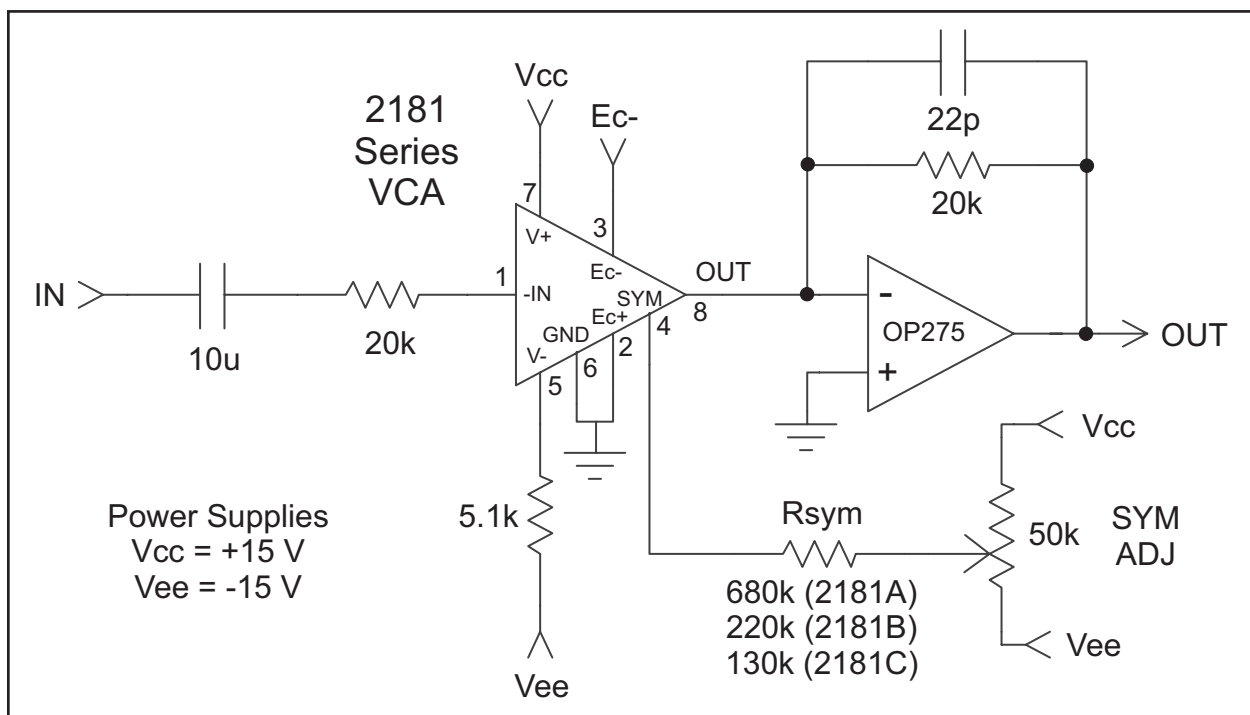
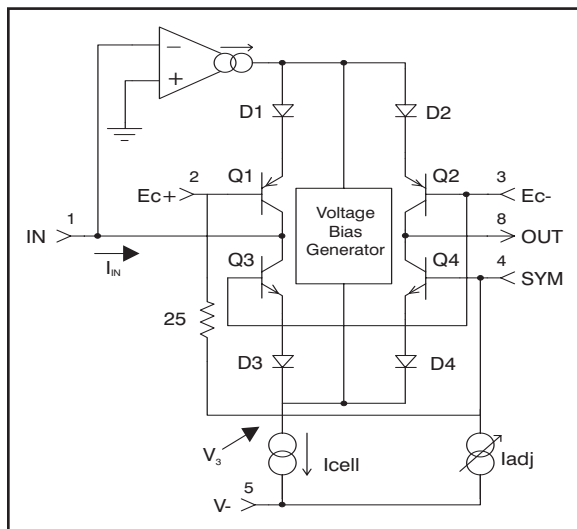
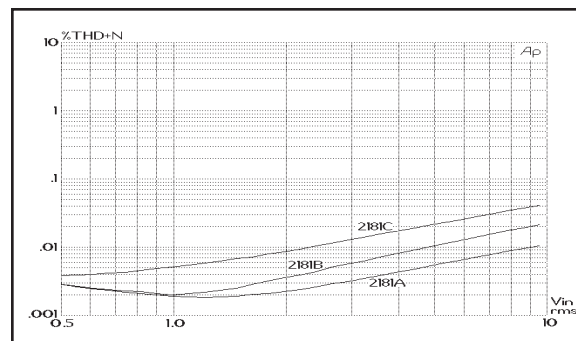

Figure 2. Typical Application Circuit
Figure 5. Simplified Internal Circuit Diagram
Figure 10. 1 kHz THD+Noise Vs. Input Level, 0 dB Gain
2. Unless otherwise noted, $T_A = 25^\circ\text{C}$, $V_C = +15\text{V}$, $V_{EE} = -15\text{V}$. Test circuit is as shown in Figure 2. SYM ADJ is adjusted for minimum THD at 1 V, 1 kHz, $E_{C-} = -E_{C+} = 0\text{ V}$
Figure 5 presents a considerably simplified internal circuit diagram of the IC. The ac input signal current flows in pin1, the input pin. An internal operational transconductance amplifier (OTA) works to maintain pin 1 at a virtual ground potential by driving the emitters of Q1 and (through the Voltage Bias Generator) Q3. Q3/D3 and Q1/D1 act to log the input current, producing a voltage, V3, which represents the bipolar logarithm of the input current. (The voltage at the junction of D1 and D2 is the same as V3, but shifted by four forward V_{be} drops.)
The 2181 current consumption is determined by the resistor between pin 5 (V-) and the negative supply voltage (V_{EE}). Typically, with 15V supplies, the resistor is 5.1 k Ω , which provides approximately 2.4 mA. This current is split into two paths: 570 μ A is used for biasing the IC, and the remainder becomes Icell as shown in Figure 5. Icell is further split in two parts: about 20 μ A biases the core transistors (Q1 through Q4), the rest is available for input and output signal current.
The 2181-Series VCAs are intended to be adjusted for minimum distortion by applying a small variable offset voltage to pin 4, the SYM pin. Note that there is a 25 Ω resistor internal to the 2181 between pin 4 and pin 2. As shown in Figure 2, Page 3, the usual method of applying this offset is to use the internal 25 Ω resistor along with a
The 2181-Series VCA design, fabrication and testing ensure extremely good audio performance when used as recommended. The 2181 maintains low distortion over a wide range of gain, cut and signal levels. Figures 10 through 12 show typical distortion performance for rep-
The Input pin (pin 1) is a virtual ground with negative feedback provided internally (see Figure 5, Page 4). The input resistor (shown as 20 k Ω in Figure 2, Page 3) should be scaled to convert the available ac input voltage to a current within the linear range of the device. Generally, peak input currents should be kept under 1 mA for best distortion performance.
Refer to Figures 10 through 12 to see how distortion varies with signal level for the three parts in the 2181 Series for 0 dB, +15 dB and -15 dB gain. The circuit of Figure 2, Page 3 was used to generate these curves.
A designer may trade off noise for distortion by decreasing the 20 k Ω current-to-voltage converting resistors used at the input and output in Figure 2, Page 3. For every dB these resistor values are de-
The Output pin (pin 8) is intended to be connected to a virtual ground node, so that current flowing in it may be converted to a voltage (see Figures 2 & 15). Choose the external opamp for good audio performance. The feedback resistor should be chosen based on the desired current-to-voltage conversion constant. Since the input resistor determines the voltage-to-current conversion at the input, the familiar ratio of R_f/R_i for an inverting opamp will determine the overall voltage gain when the 2181 is set for 0 dB current gain. Since the VCA performs best at settings near unity gain, use the input and feedback resistors to provide design-center gain or loss, if necessary.
The SYM pin (pin 4) is actually a sort of additional positive-sense control port. It is provided to allow V_{be} mismatches in the core transistors to be adjusted after packaging and installation in the circuit board. It should only be used for this purpose. Connect pin 4 only to a high-impedance source as shown in Figures 2 and 15.